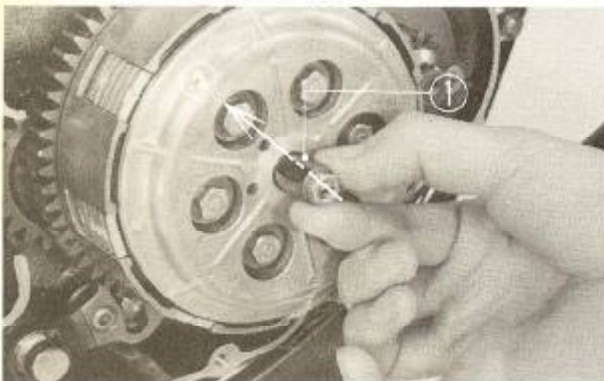

Fig. 3-21 ① Clutch lifter rod
6. With the groove in the clutch lifter rod faced in direction (A) in Fig. 3-21, install the right crankcase cover. Insert the clutch lever and turn it clockwise to fit the tip into the groove in the clutch lifter rod.